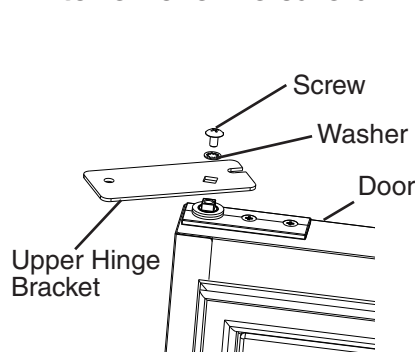

**Fig. 14**
- 7) While preventing the upper hinge bracket from rotating, remove the upper hinge bracket from the spring cartridge. See Fig. 14. Note which side of the upper hinge bracket is facing up.